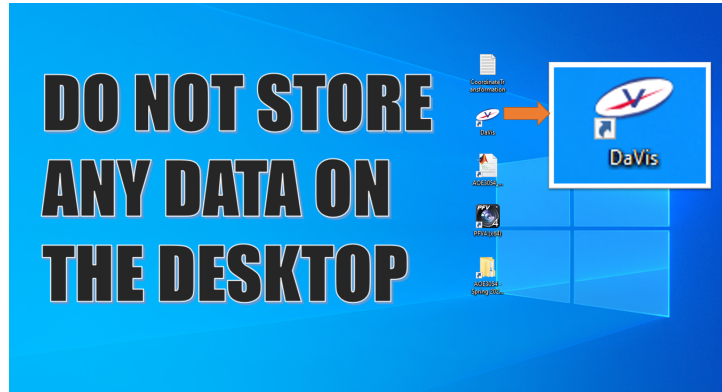

Figure 1: DaVis 8.4.0 Icon
- Open DaVis 8.4.0 from the desktop using the icon displayed in **Figure 1**, make sure that you received no error while the software loads. Otherwise, ask for help by alerting the GTA.